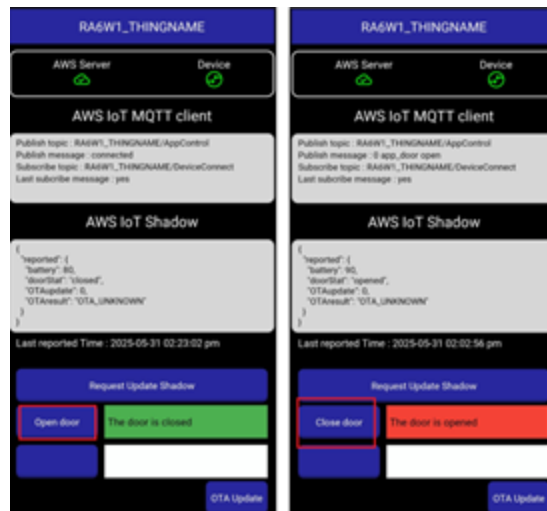

Figure 14. Application for AWS IoT with AT command
- To open and close the door, click the **Open door/Close door** button, see Figure 14. The left side of Figure 14 shows the closed door state, and the right side show the opened door state.